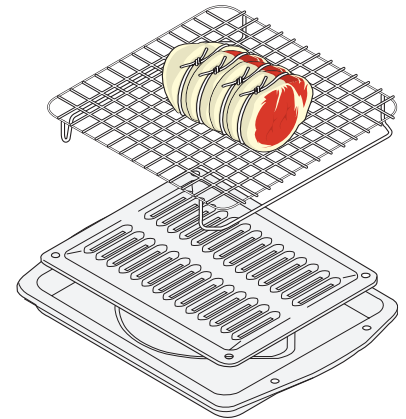

Figure 4
3. Position food (fat side up) on the roasting rack (See Fig. 4).